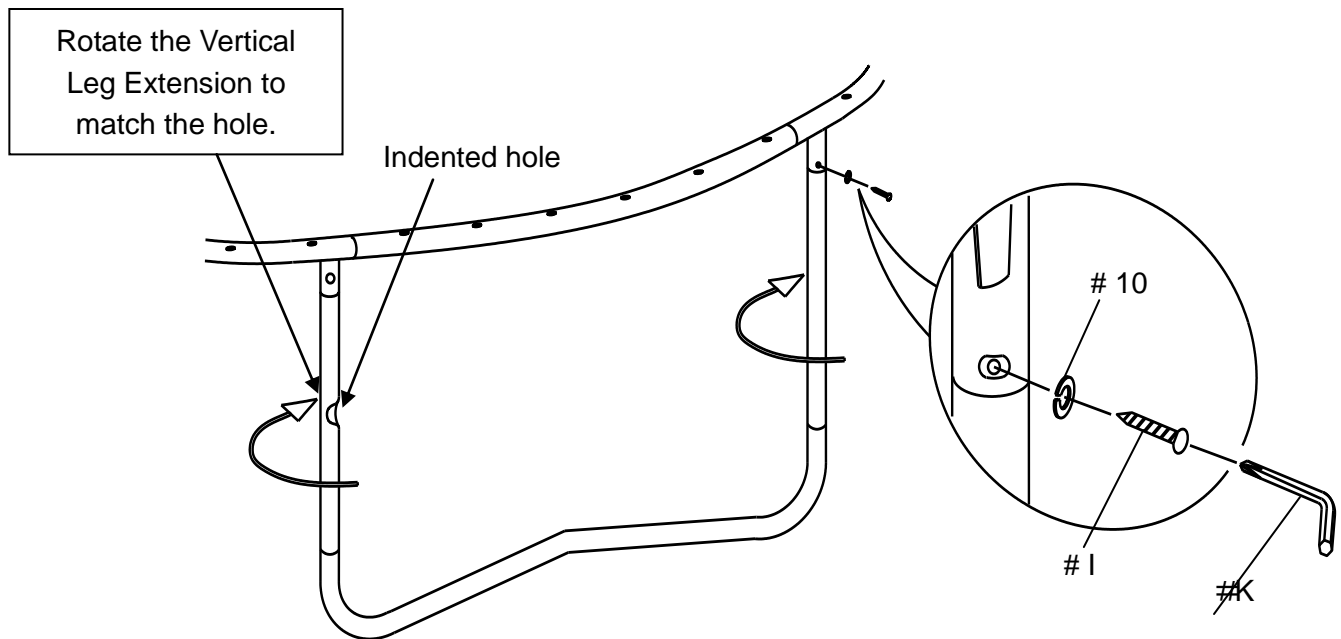

FIGURE 5
- C. Screw in the Self-locking Screw (# I) and Small Spring Washer (# 10) with Allen Wrench (# K) as shown in FIGURE 5. Don't completely tighten the Self-Locking Screws until instructed in the next step. After the next step is completed and all springs are attached, the Self-Locking Screws will need to be tightened completely.